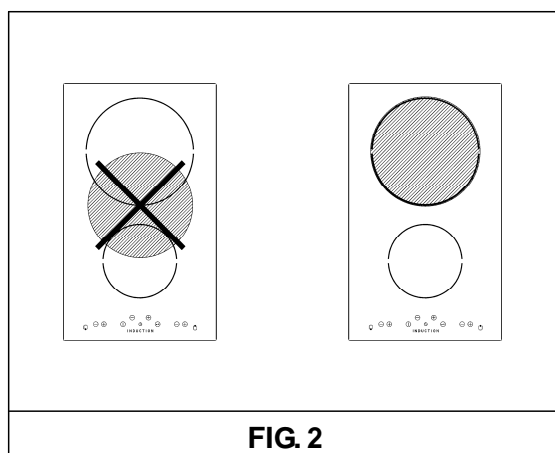

FIG. 2
- The pans must be properly centred on the heating elements (see fig. 2). If the pan is not properly centred over the corresponding printed area or is removed without switching the element off, a sensor automatically switches off the hob after a few seconds and the **U** symbol appears on the display indicating the absence of the pan. If the pan is not returned to or correctly positioned on the cooking area within 1 minute, the hob resets and if no control is pressed, it switches off after 20 seconds.